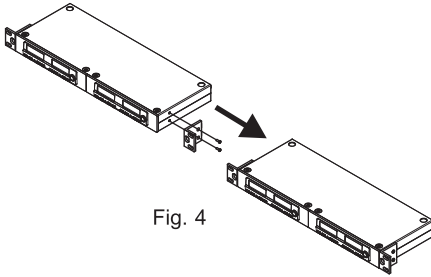

Fig. 4
1. Receivers can be installed on an EIA standard 19-inch rack case. Fig. 4.